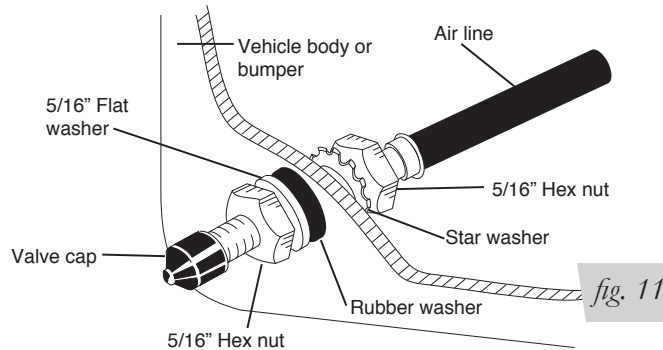

fig. 11
4. Place a 5/16" nut and star washer on the air valve. Leave enough of the inflation valve in front of the nut to extend through the hole and have room for the rubber washer, flat washer, and 5/16" nut and cap. There should be enough valve exposed after installation—approximately 1/2"—to easily apply a pressure gauge or an air chuck (Fig. 11).